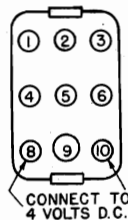

FIG. 5--CONTROL CABLE PLUG Facing Plug
- (e) Adjust trimmers A, B, C & D through the cut-outs on the side of the chassis (illus. 12 & 13, Fig. 5) carefully for maximum output.
- (c) Adjust oscillator padder condenser "K" (Fig. 5) rocking gang con-
- (e) Adjust antenna series condenser "E" (Fig. 5) for maximum output.
- (b) Adjust oscillator padder condenser "J" (Fig. 5) rocking gang condenser plates back and forth through the signal until maximum output is obtained.